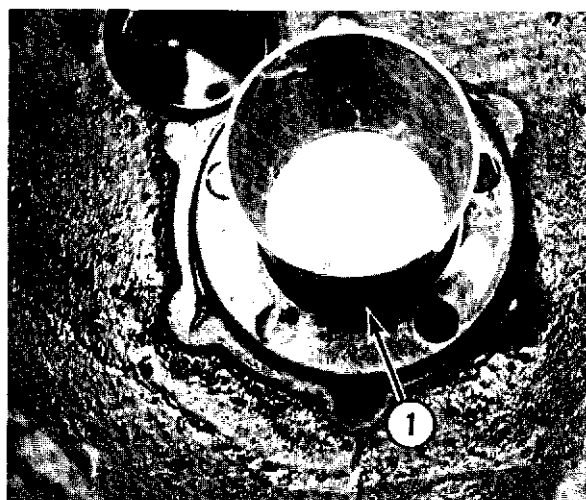

Fig. 11-9
- X. The chimney (1, Fig. 11-9) can now be removed.